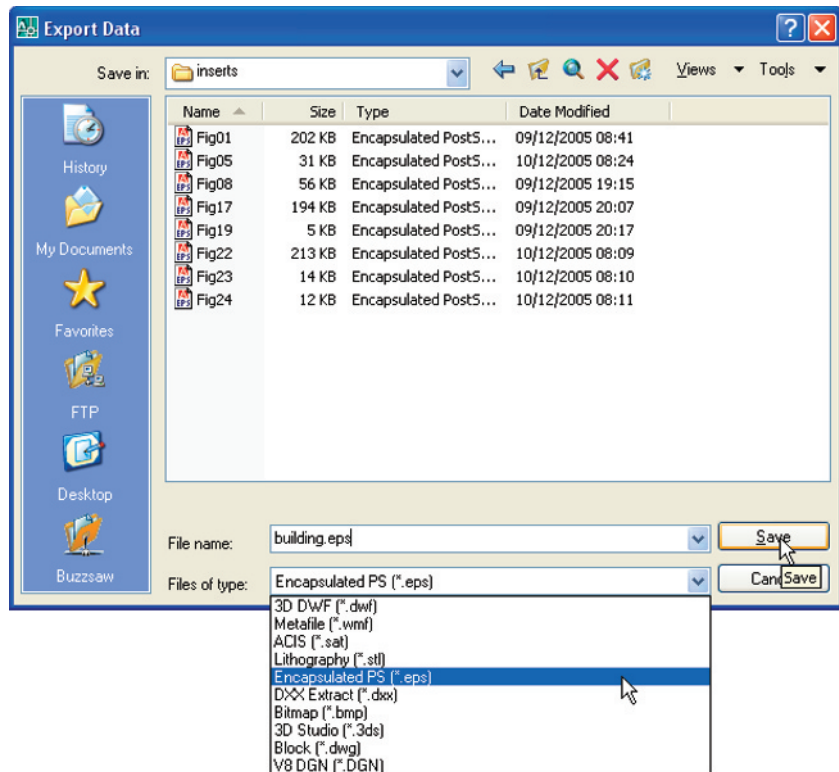

Fig. 10.4 The **Export Data** dialog of AutoCAD 2008
1. With the same drawing on screen *click* on **Export...** in the **File** drop-down menu. The **Export Data** dialog appears (Fig. 10.4). *Pick Encapsulated PS (*.eps)* from the **Files of type** popup list, then *enter* a suitable file name (**building.eps**) in the **File name** field and *click* the **Save** button.